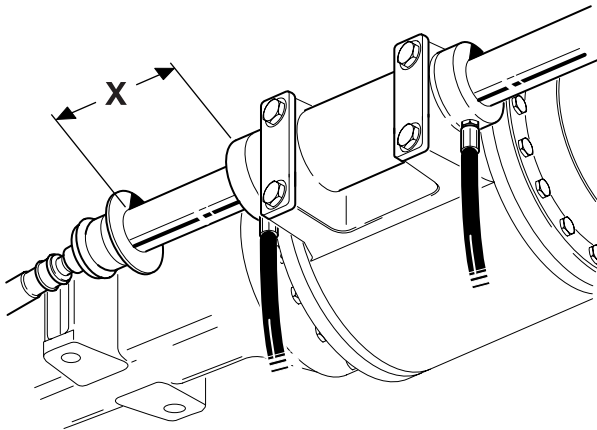

Fig 10.
- 1 Align the wheels in the straight ahead position. Check by measuring the steering ram position, as shown. Set the steering so that dimension **X** is 129 mm. ⇒ Fig 10. \(□ H3-20\)